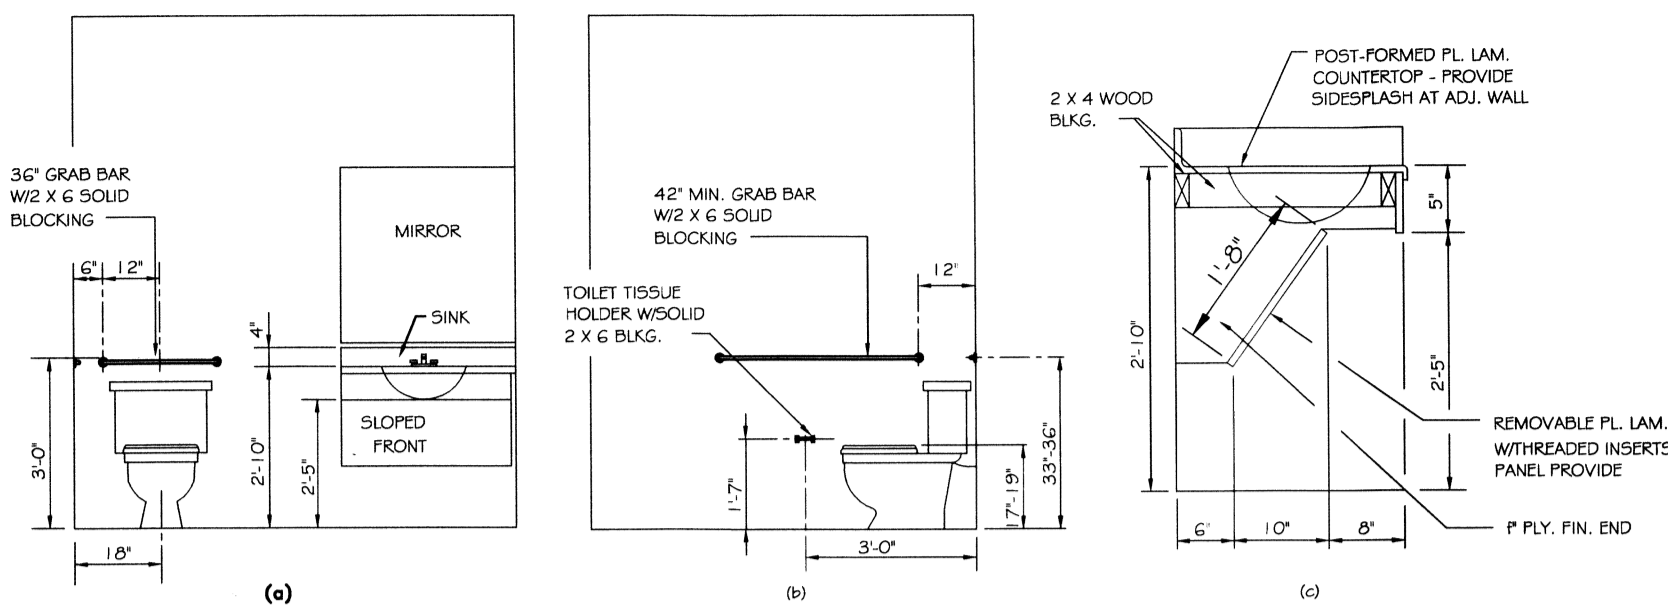

FIG. 31
- 4.16.3 HEIGHT. THE HEIGHT OF WATER CLOSETS SHALL BE 17" TO 19" (430mm TO 485mm), MEASURED TO THE TOP OF THE TOILET SEAT. SEATS SHALL NOT BE SPRUNG TO RETURN TO A LIFTED POSITION (SEE FIG. 31).
- 4.16.4 GRAB BARS. GRAB BARS FOR WATER CLOSETS NOT LOCATED IN STALLS SHALL COMPLY WITH 4.26 AND FIG. 31. THE GRAB BAR BEHIND THE WATER CLOSET SHALL BE 36" (915mm) MINIMUM.
- 4.16.6 DISPENSERS. TOILET PAPER DISPENSERS SHALL BE INSTALLED WITHIN REACH, AS SHOWN IN FIG. 31. DISPENSERS THAT CONTROL, DELIVER, OR THAT DO NOT PERMIT CONTINUOUS PAPER FLOW, SHALL NOT BE USED.
- 4.17.6 GRAB BARS. GRAB BARS MAY BE MOUNTED WITH ANY DESIRED METHOD AS LONG AS THEY HAVE A GRIPPING SURFACE AT THE LOCATION SHOWN IN FIG. 31 AND DO NOT OBSTRUCT THE REQUIRED CLEAR FLOOR AREA. GRAB BARS SHALL COMPLY WITH 4.26.
- 4.19.2 HEIGHT & CLEARANCES. LAVATORIES SHALL BE MOUNTED WITH THE RIM OR COUNTER SURFACE NO HIGHER THAN 34" (865mm) ABOVE THE FINISH FLOOR. PROVIDE A CLEARANCE OF AT LEAST 29" (735mm) ABOVE THE FINISH FLOOR TO THE BOTTOM OF THE APRON (SEE FIG. 31).
- 4.19.6 MIRRORS. MIRRORS SHALL BE MOUNTED WITH THE BOTTOM EDGE OF THE REFLECTING SURFACE NO HIGHER THAN 40" (1015mm) ABOVE THE FINISH FLOOR (SEE FIG. 31).
- 4.24.2 HEIGHT. SINKS SHALL BE MOUNTED WITH THE COUNTER OR RIM NO HIGHER THAN 34" (865mm) FROM THE FINISHED FLOOR (SEE FIG. 31).